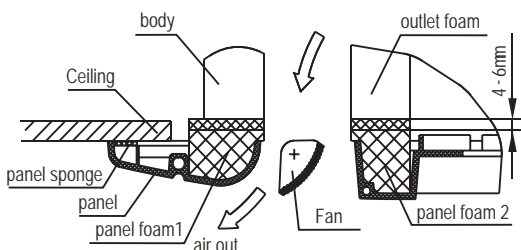

Fig.4-16
- 6) Keep fastening the screws under the panel hooks, until the thickness of the sponge between the body and the panel's outlet has been reduced to about 4~6mm. The edge of the panel should contact with the ceiling well. (Refer to Fig.4-16)